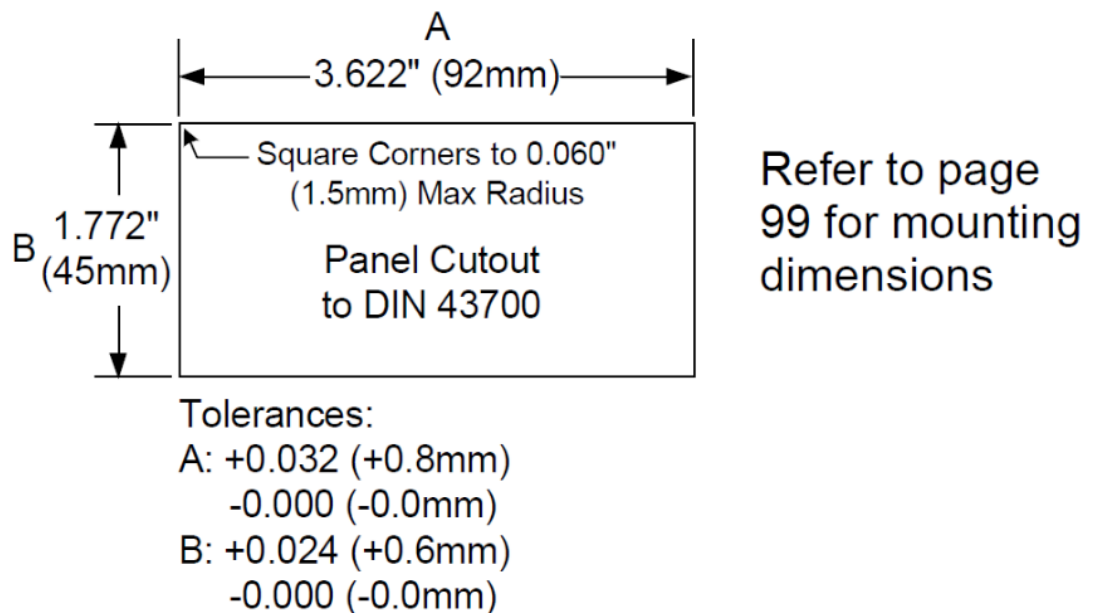

Figure 1. 1/8 DIN Panel Cutout Dimensions
- Prepare a standard 1/8 DIN panel cutout – 3.622" x 1.772" (92 mm x 45 mm). Refer to Figure 1 below, for more details.